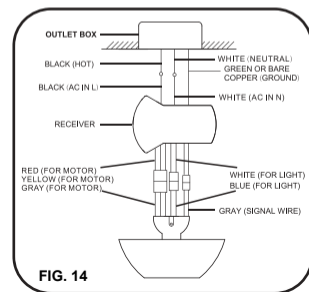

FIG. 14
Step 4. Motor to receiver wires electrical connections:Connect the 4P-4P for motor/ 2P-2P for light/ Gray-gray for signal from motor to receiver . (Fig. 14)